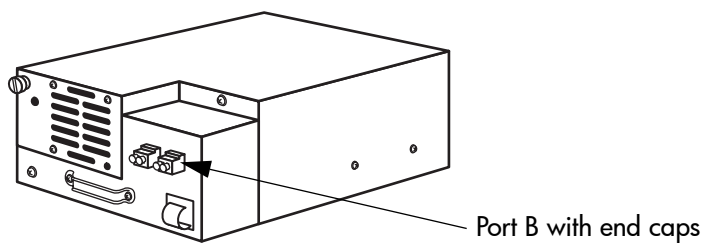

Figure 39: Verifying installation of FC end caps to the Ultrium 460-FC drive
6. Verify that the end caps (supplied) are installed on FC Port B of the Ultrium 460-FC drive (see Figure 39).